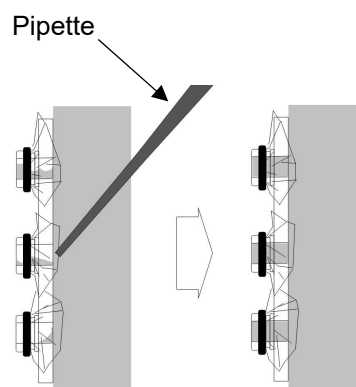

Fig.6 Purge the air bubbles
4. Check whether the holes include air bubbles. When the air bubbles are in there, purge the bubbles away with the pipette or the dropper with the solution (Fig.6).